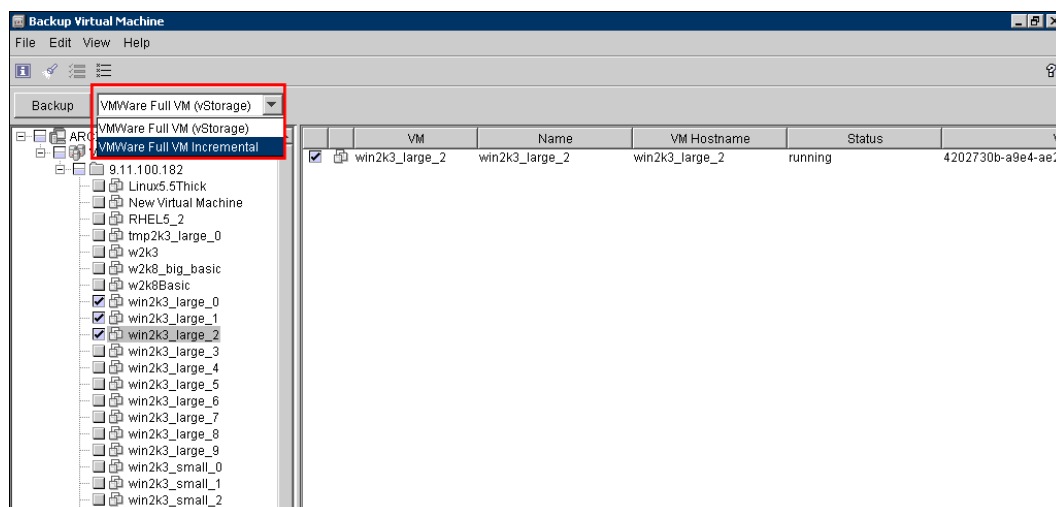

Figure 20-25 Choose the type of backup
2. The Backup Virtual Machine window opens (Figure 20-25). In the Backup selection box, select the backup type: **VMware Full VM (vStorage)** or **VMware Full VM (incremental)**.